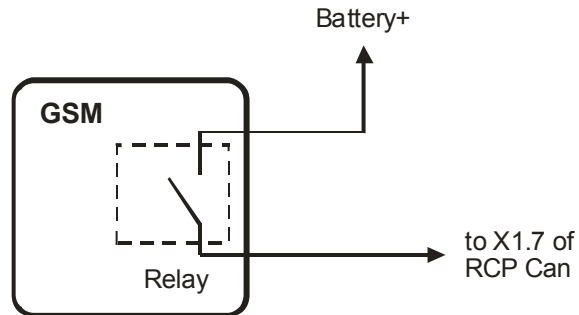

Figure 8
- Some GSM modules can control an additional device by the means of inner relay. They may be connected to RCP Can by the scheme at the fig.8